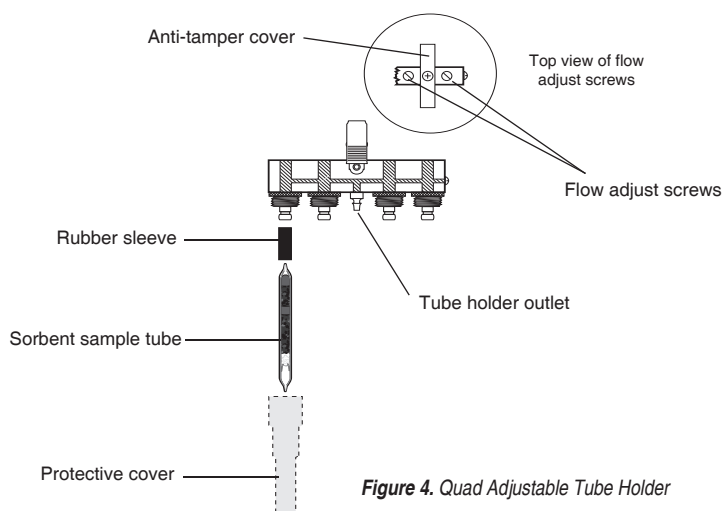

Figure 4. Quad Adjustable Tube Holder
Using Multiple-tube Adjustable Tube Holder (Figure 4)
- a. Connect the adjustable tube holder (Figure 4) to the pump inlet (Figure 1) using the attached 1/4-inch Tygon tubing.
- b. Insert an opened representative sorbent tube into each rubber sleeve of the tube holder (Figure 4). Ensure that the arrow on each tube points toward the tube holder.
6. Loosen and turn the brass flow adjust screw (*Figure 4*) on the port of the appropriate tube holder (**counterclockwise to increase, clockwise to decrease**) until the desired flow rate is achieved. **Note:** For tri and quad models, first rotate each anti-tamper cover (*Figures 4 and 5*) to expose the flow adjust screws, then adjust the appropriate one until the flowmeter indicates the desired flow.